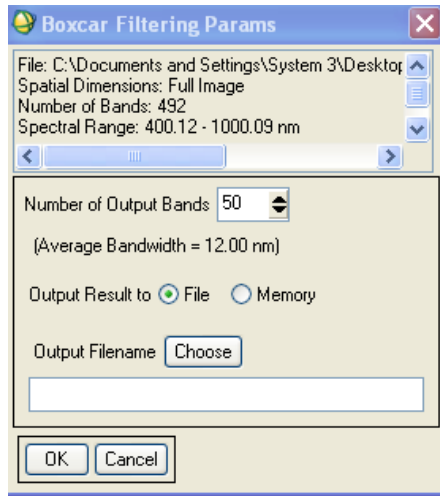

Figure 2. Boxcar Filtering Params box
- The Boxcar Filtering Params box opens (see Figure 2). The number you will enter determines how many bands the new data will have. A larger number will cause a smaller degree of noise filtering. Select number of output bands or use the default of 50. Click Choose.